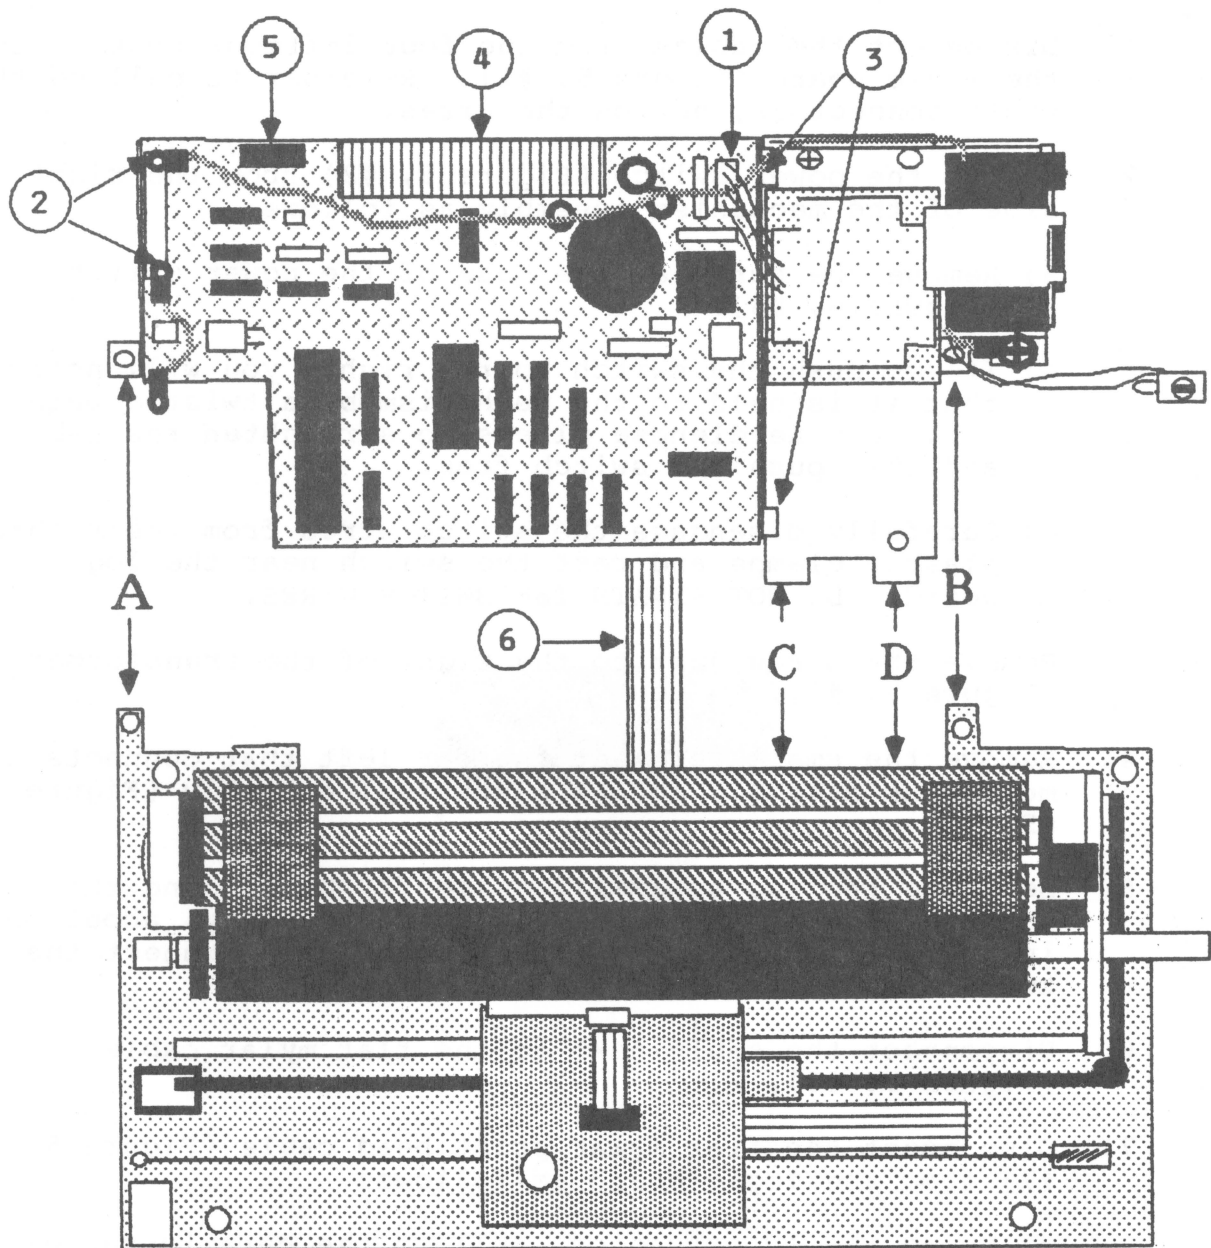

Figure 6
1. Disconnect the four-wire transformer plug from the logic board (Figure 6, #1).
2. Remove the two screws from the DB25 connector (Figure 6, #2) and set the ground wires aside.
3. Slide the logic board out from the small plastic clamps that hold it (Figure 6, #3), and set it aside.
- a) The long ground wire from the right goes to the rear of the DB-25; route it in front of the heat sink (Figure 6, #4) and the DIP switches (Figure 6, #5).
4. Connect the four-wire transformer plug to its socket (Figure 6, #1).
1. Lay the Logic Board Assembly behind the Mechanism Assembly on a flat surface. (See Figure 6.)
3. Make sure the mylar cable (Figure 6, #6) is lying on top of the logic board.
4. Slide the two assemblies together, making sure that Tabs A and B of the logic board lie under Tabs A and B of the mechanism assembly (see Figure 6).